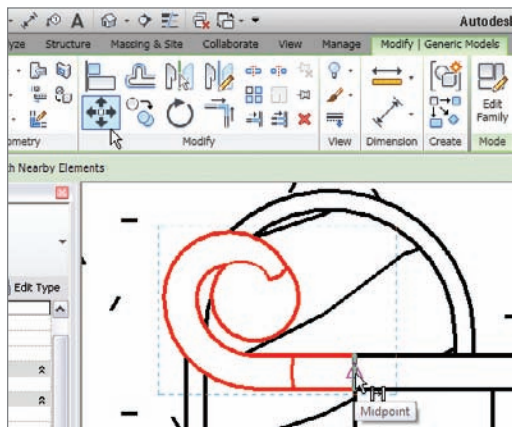

FIGURE 10.73 Moving the post to align with the stair railing
9. Move the post from the midpoint of the post's end to the midpoint of the stair railing's end, as shown in Figure 10.73.